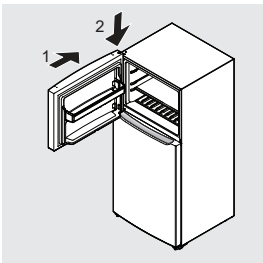

Figure 10
12. Lower the freezer door in the opened position over the center hinge pin and close the door (see Figure 10).